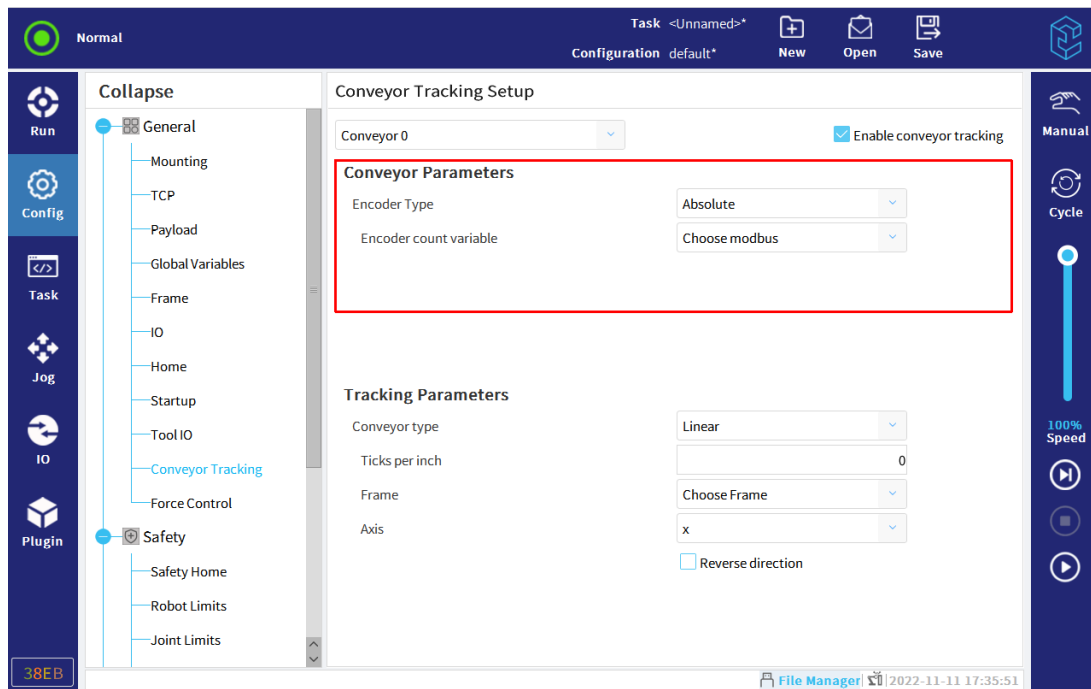

Figure 3-126 : Configure conveyor parameters
4. Select "Encoder count variable" as the "Modbus" setting, as shown in **Figure 3-126**.